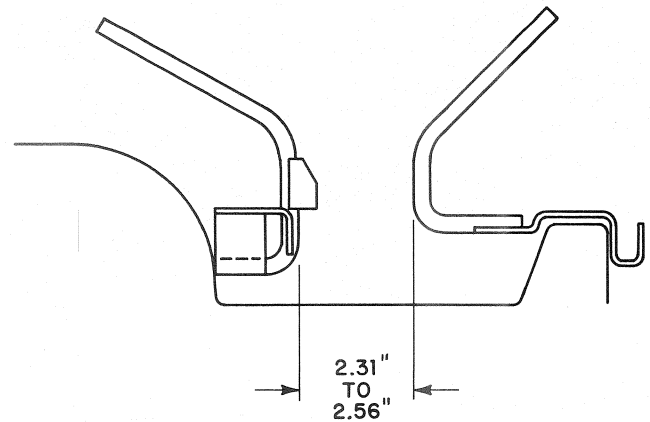

Fig. 29. Arc horn adjustment
9. Adjust the gap across the arc horns to the dimension shown in Fig. 29.